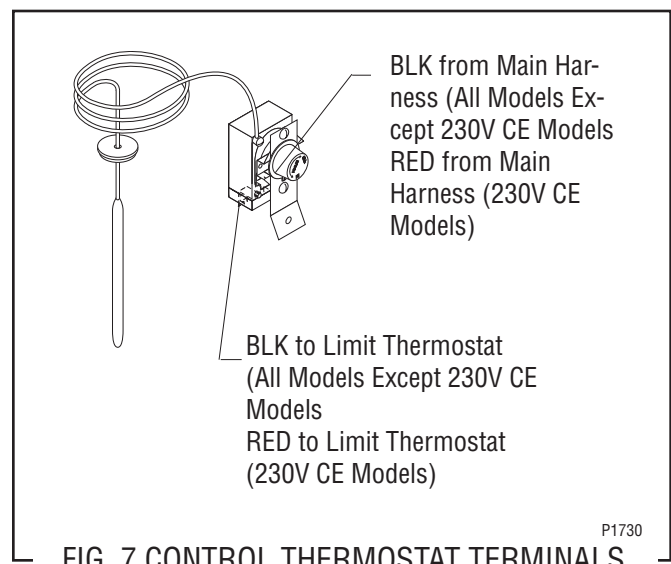

FIG. 7 CONTROL THERMOSTAT TERMINALS
10. Refer to Fig. 7 and reconnect the wires.